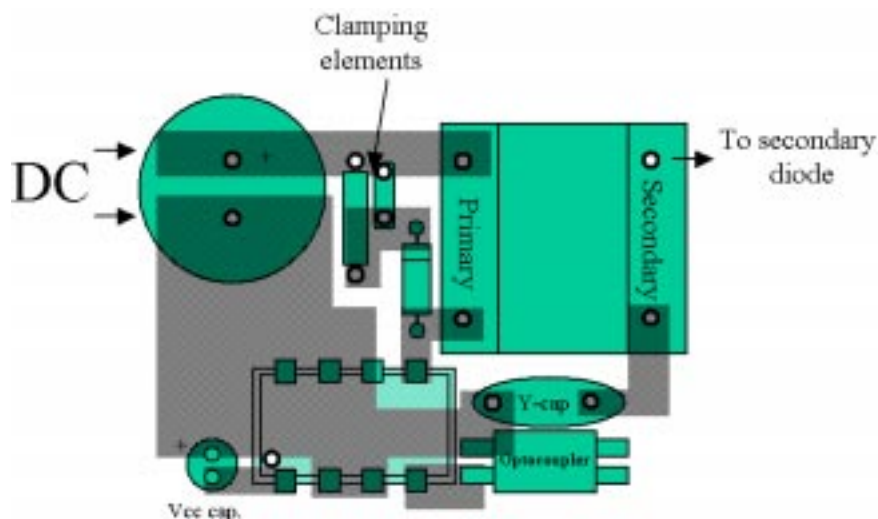

Figure 25. A Possible PCB Arrangement to Reduce the Thermal Resistance Junction-to-Ambient
1.0 W for an ambient of 50°C. The losses inherent to the MOSFET R_{DSon} can be evaluated using the following formula: $P_{mos} = \frac{1}{3} \cdot I_p^2 \cdot d \cdot R_{DSon}$ (eq. 13), where I_p is the worse case peak current (at the lowest line input), d is the converter operating duty-cycle and R_{DSon} , the MOSFET resistance for $T_J = 100^\circ\text{C}$. This formula is only valid for Discontinuous Conduction Mode (DCM) operation where the turn-on losses are null (the primary current is zero when you restart the MOSFET). Figure 25 gives a possible layout to help drop the thermal resistance. When measured on a 35 μm (1 oz) copper thickness PCB, we obtained a thermal resistance of 75°C/W.